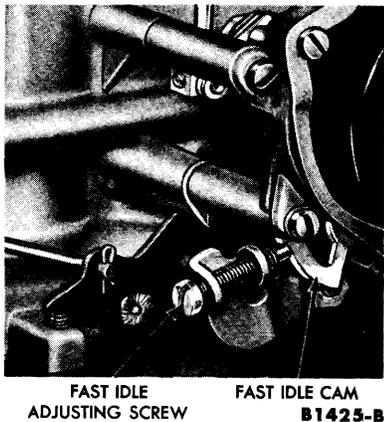

FIG. 6—Fast Engine Idle Speed Adjustment
4. The adjusting screw on the right side of the carburetor contacts one edge of the fast idle cam (Fig. 6). The cam permits a faster engine idle speed for smoother running when the engine is cold during choke operation. As the choke plate is moved
Align the fast idle cam with the fast idle screw as shown in Fig. 6. Then, turn the screw in to obtain the specified rpm.